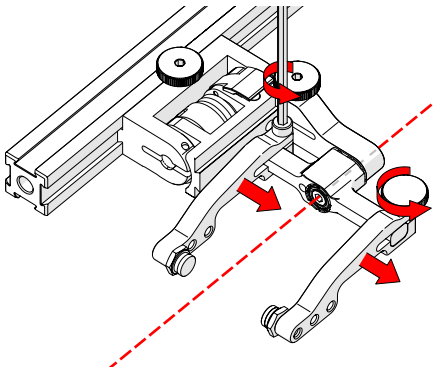

Fig. 66 - Adjust probe holder arms
5. Loosen the probe holder arm adjustment knob (Fig. 66) and remove the outer probe holder arm from yoke.
6. Adjust the inner probe holder arm as required to best centre the probe on the yoke's pivot axis (Fig. 66).
TIP: The probe holder yoke can accommodate many different probe and wedge sizes of varying widths. When scanning, it is best to centre the wedge with the yoke's pivot axis to reduce wedge tipping. Position the inner probe holder arm accordingly with the centre of the yoke (Fig. 66).